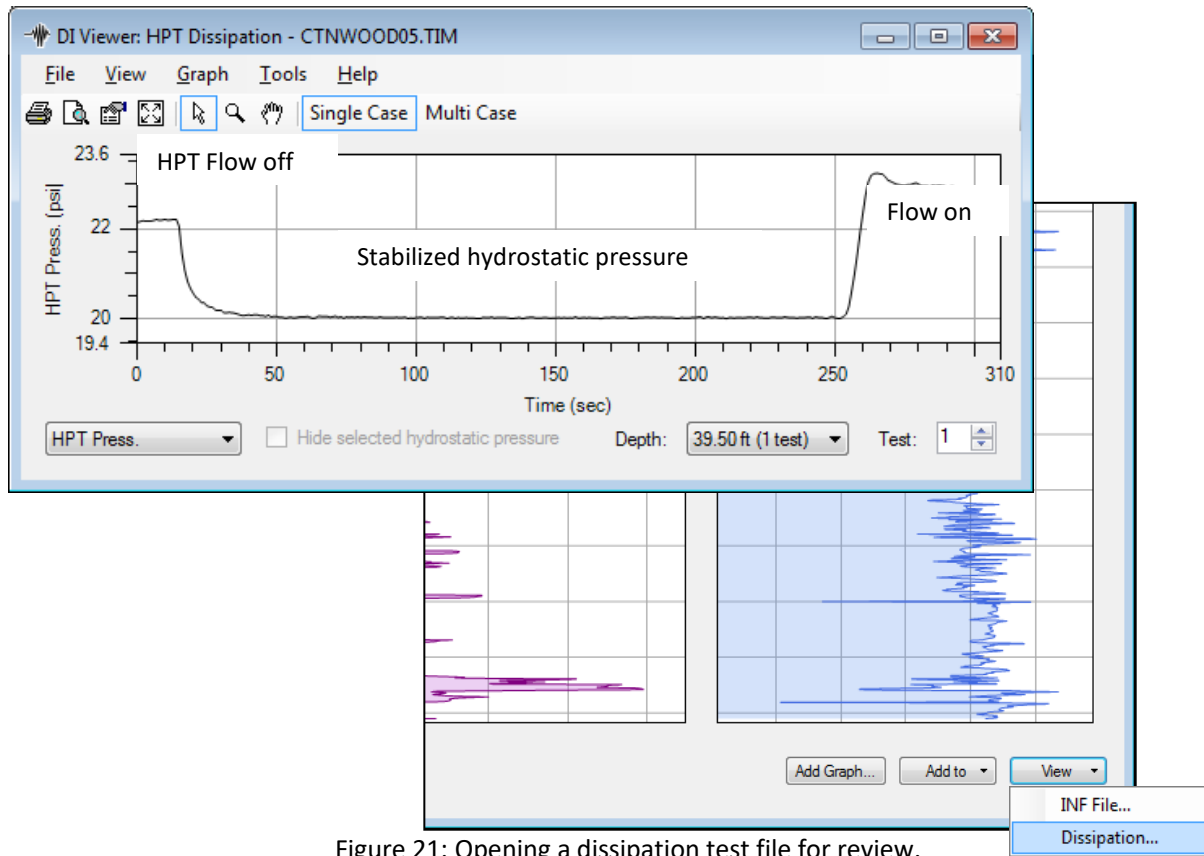

Figure 21: Opening a dissipation test file for review.
1. Move cursor to lower right of the Viewer window and click on the *View* icon (Figure 21)